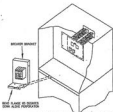

FIG. 3 H83000 - H83000 HETERO INSTALLATION
- ii) On HB3000 - HB5000 units mount the circuit breaker bracket on the left side corner of the cabinet shelf. Manually bend the bracket perforated flange 90 degrees down (see fig. 3). Secure bracket to cabinet shelf with (2) screws provided.